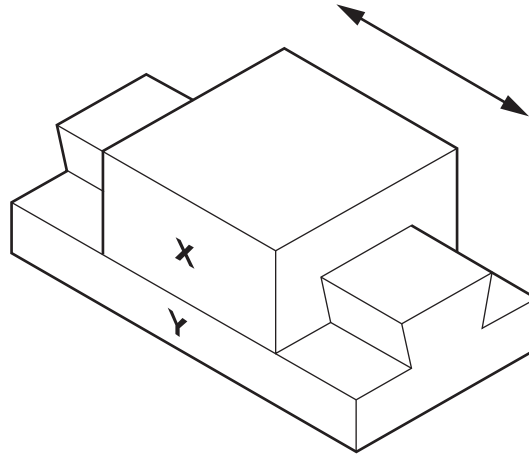

Fig. 7.1
- 7 Fig. 7.1 shows two parts of a machine where movement takes place in the directions shown.
- (b) Name the type of motion indicated in Fig. 7.1.